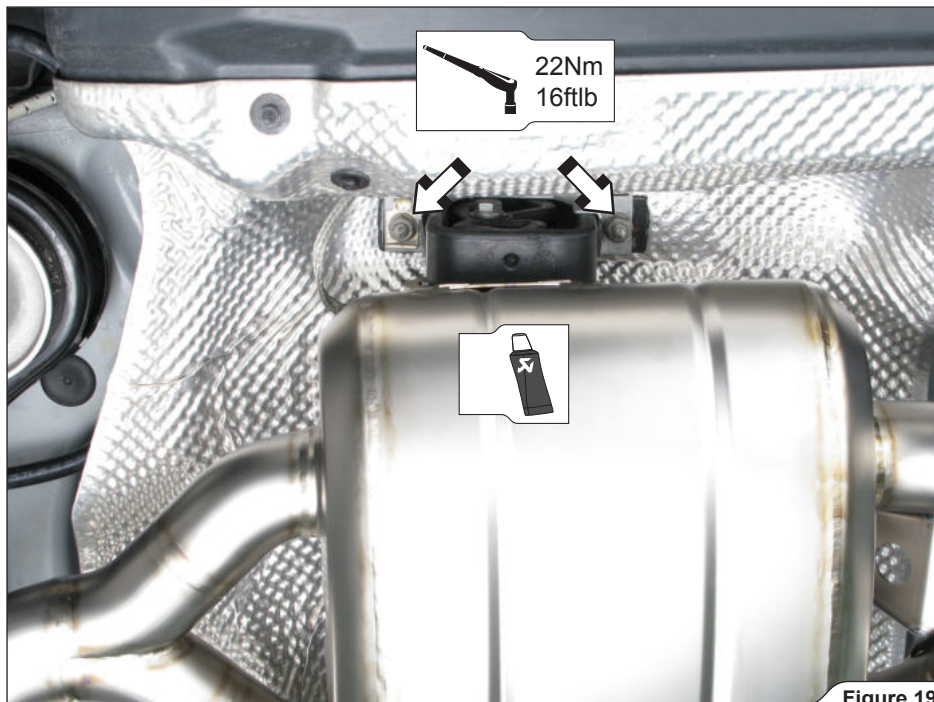

Figure 19
9. **For Slip-On and Evolution:** tighten the stock muffler brackets and ground wires to the vehicle chassis (**Figure 19**).